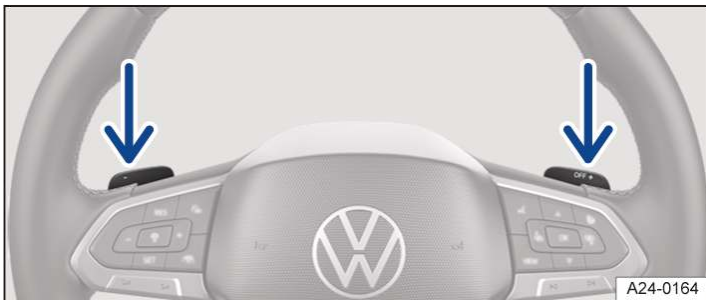

Fig. 1 Behind the steering wheel: paddles for Tiptronic.
It is possible to change to Tiptronic mode from positions **D** and **S** by pulling a paddle → *Fig. 1*.
- To shift up, pull the right paddle towards the steering wheel → *Fig. 1*.
- To shift down, pull the left paddle towards the steering wheel → *Fig. 1*.